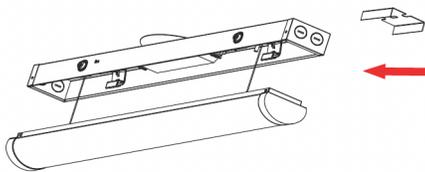

Fig. 16
5. Slip the connecting bracket under the strip light, leaving half of it exposed. (Fig. 16).